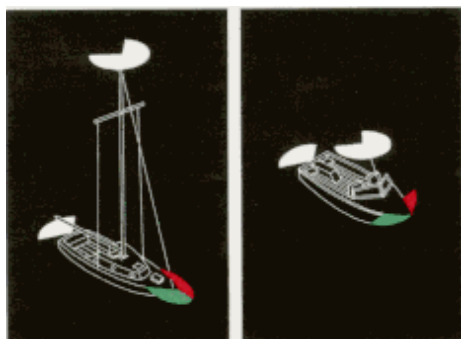
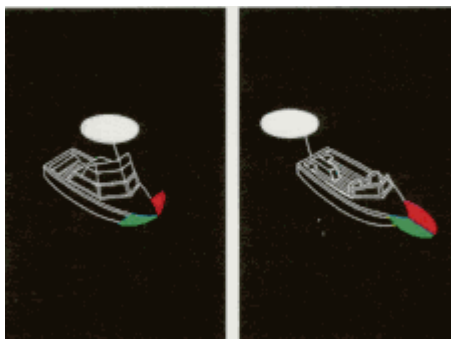

Figure 1
Figure 2
Motorboats less than 20 meters (65.62 feet) shall exhibit navigation lights as shown in Figure 1. (Note: Two masthead lights are optional for boats under 50 meters. Boats over 50 meters [164 feet] will display two masthead lights.)
Motorboats of less than 12 meters (39 feet, 4 inches) in length, may show the lights in either Figure 1 or Figure 2. Boats of less than 7 meters (23 feet) whose maximum speed cannot exceed seven (7) knots may exhibit an all-around white light, and, if practicable, sidelights instead of the lights prescribed above, in international waters only.